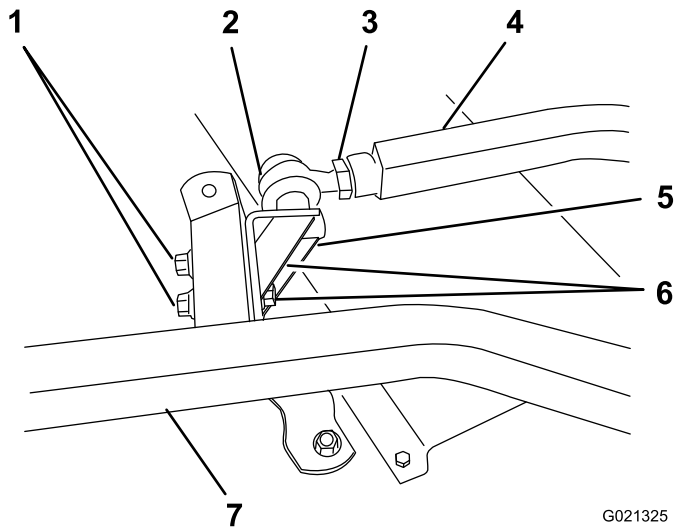

Figure 10
1. Remove the 2 capscrews, flat washers, and flange nuts securing the left-hand ball joint mount to the left-hand castor arm (Figure 10). Remove the ball joint mount and chain bracket.